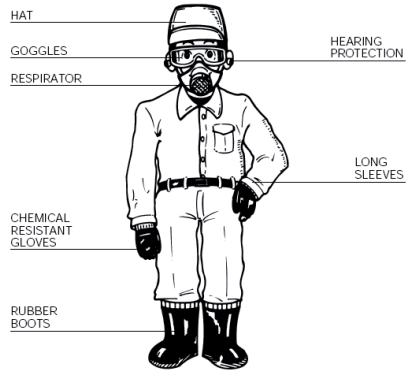

Figure 8
1. Protective clothing (Fig.8)
- (1) Mental patients.
- (2) Drunk.
- (3) Under age or old person. Fig.8
- (4) Person with no knowledge of the machine.
- (5) Dog-tired person or patient and others who can not operate the machine normally.
- (6) Person who have just exercised strenuously or slept not enough.
- (7) Women giving the breast to baby or being pregnant.